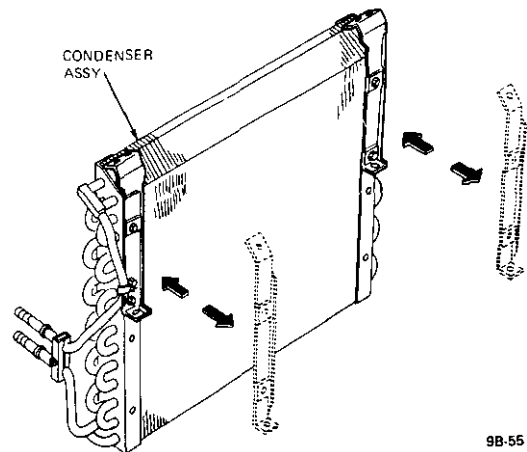

Figure 9B-75 Condenser Assembly Mounting Brackets Opel 1900 Manta
1. Install condenser into car and install 2 condenser to body mounting screws. See Figure 9B-74. Install radiator grill.